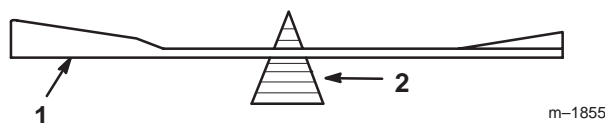

Figure 33
2. Check the balance of the blade by putting it on a blade balancer (Fig. 33). If the blade stays in a horizontal position, the blade is balanced and can be used. If the blade is not balanced, file some metal off the end of the sail area only (Fig. 34). Repeat this procedure until the blade is balanced.